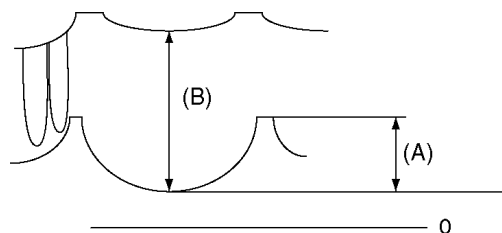

Fig. 3
8. Adjust V-PARA (Service mode1) so that waveform (A) is $380V \pm 20V$. (Fig. 3)
9. Adjust H-PARA (Service mode1) so that waveform (B) is $560V \pm 40V$. (Fig. 3)
12. Adjust V-PARA (Service model) so that waveform (A) is $180V \pm 20V$. (Fig. 3)
13. Adjust H-PARA (Service model) so that waveform (B) is $560V \pm 20V$. (Fig. 3)